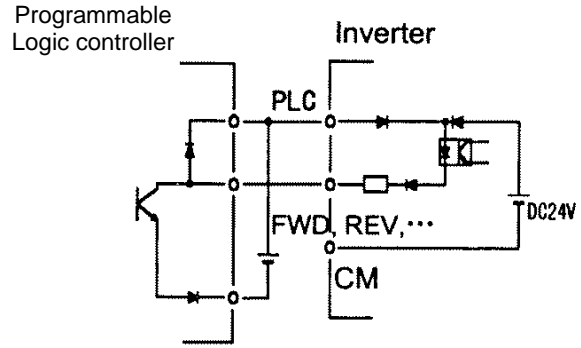

Fig. 2-3-14 Connection for External power supply
(2) Digital input terminals (FWD, REV, X1 to X9 and CM)
- ① Digital input terminals (e.g., FWD, REV, X1 to X9) are generally turned on or off by connecting or disconnecting the line to or from the CM terminal. If Digital input terminals are turned on or off by switching the open collector output of PLC using an external power supply, a resulting bypass circuit may cause the inverter to malfunction. To prevent a malfunction, connect the PLC terminal as shown in Fig. 2-3-14.
- ② When using a contact input, a relay having highly reliable contact must be used.